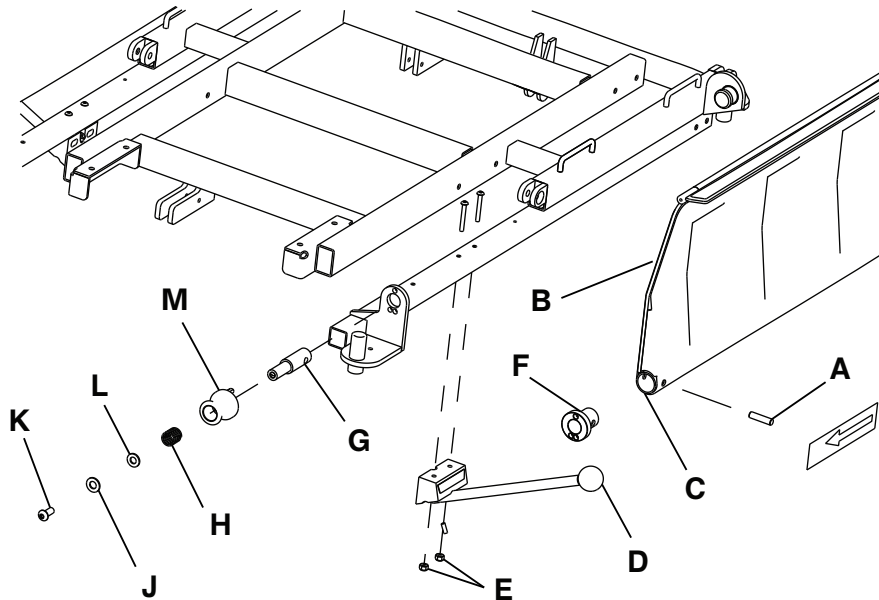

Figure 9 – Siderail replacement
5. Using a 1/4" punch and a hammer, drive out the pin (A) that secures the siderail (B) to the latch pivot shaft (G) (Figure 9).
6. Pull back on the red release knob (M) and remove the knob assembly with the latch pivot shaft (G) (Figure 9).
10. Using a 3/16" hex wrench, remove the button head cap screw (K) from the end of the red release knob (M). Disassemble the washers (J and L), spring (H), and the latch pivot shaft (G) (Figure 9).
18. Apply **Loctite 242** to the button head cap screw (K). Install the screw into the end of the red release knob (M) and tighten the screw (Figure 9).
1. Make sure that the red knob (M) is seated fully when released when the siderail is in both the high and low positions (Figure 9).
2. If the red knob is not fully seated, use a 3/16" hex wrench to remove the button head cap screw (K) in the end of the red knob.
4. Replace the button head cap screw (K) in the end of the knob. Using a 3/16" hex wrench, tighten the button head cap screw.